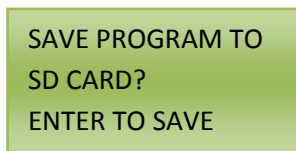

Figure 12.2
- a. Programmed data is stored internally in Flash ROM (memory) as well as EEPROM (electronically erasable), which is non-volatile memory. All programmed data through this option in the Utilities Menu can be backed up to the SD card (on board Hard Drive). This allows the current programming to be saved to the SD Card that is located in the back of the LCD / Keypad Display and will not be lost if something were to happen. To Save to the SD Card, press ENTER on the keypad. See Figure 12.2 for a visual example.